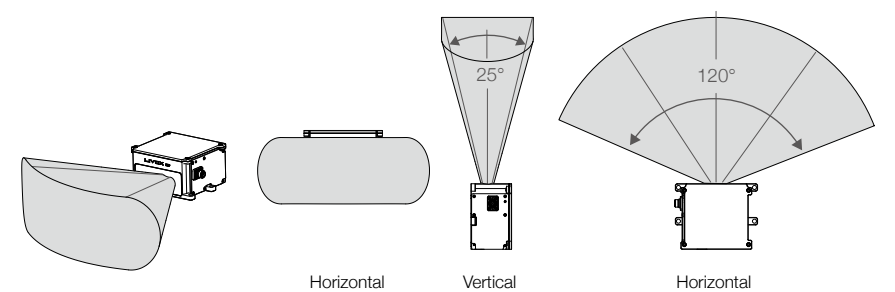

Figure 3.1.1 Effective FOV of the HAP (TX)
2. Significant dust and stains on the optical window will affect the performance of the LiDAR sensor. Follow the instructions in the Maintenance section to clean the optical window using compressed air, isopropyl alcohol, or a lens cloth. Mount the HAP (TX) after cleaning it.
3. When mounting the HAP (TX), the field of view must not be blocked by an object, including glass. Refer to Figure 3.1.1.
4. When mounting the HAP (TX), allow a space of at least 10 mm around the device to prevent poor airflow affecting heat dissipation, and make sure the waterproof breathable valve is not blocked.
5. The HAP (TX) cannot bear any extra payload. Otherwise, the reliability of the product cannot be guaranteed.